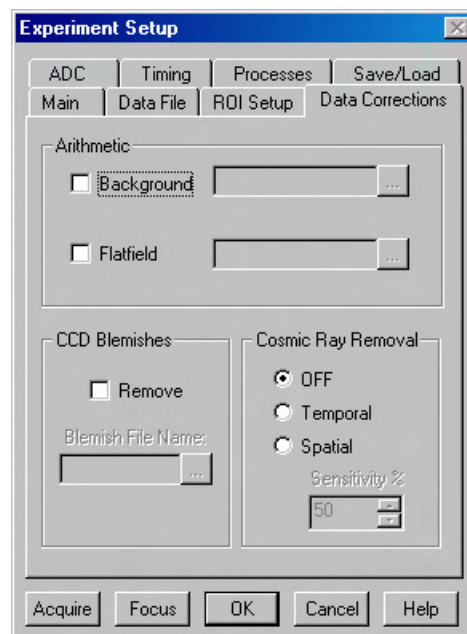

Figure 39. Data Corrections tab page
4. On the **Data Corrections** tab page (Figure 39) all of the correction functions should be OFF.